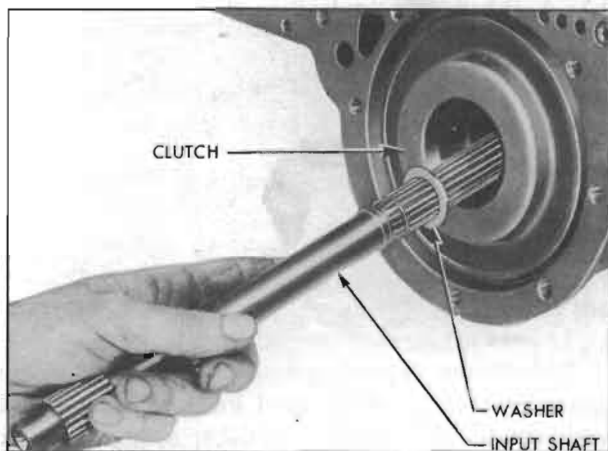

Figure 4-82—Removal of Input Shaft and Clutch Hub Thrust Washer
1. Pull the input shaft and clutch hub front thrust washer from the clutch assembly, then remove the clutch assembly. See figure 4-82.